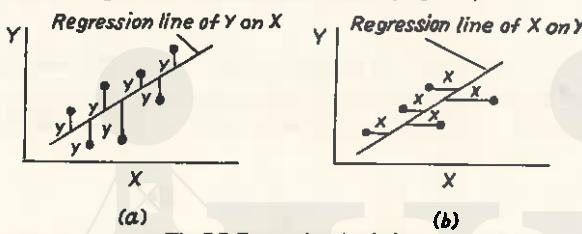

Fig. 7.7. Regression Analysis.
- It has been seen earlier that a linear relationship between two variables x and y is indicated by a high value of the *correlation coefficient*. However, this coefficient does not indicate the true relationship, hence we are unable to estimate either a value of x for a given value of y or vice versa. To do this, a *regression equation* must be calculated (Fig. 7.7).
- The regression line for Y on X is the best line for calculating values of Y , and is obtained by minimizing the sum of the squares of the errors of estimation, i.e. the y values in Fig. 7.7(a)
- The regression line for X on Y is the best line for calculating values of X , and is obtained by minimizing the sum of the squares of the errors of estimation, i.e. the x values in Fig. 7.7(b)